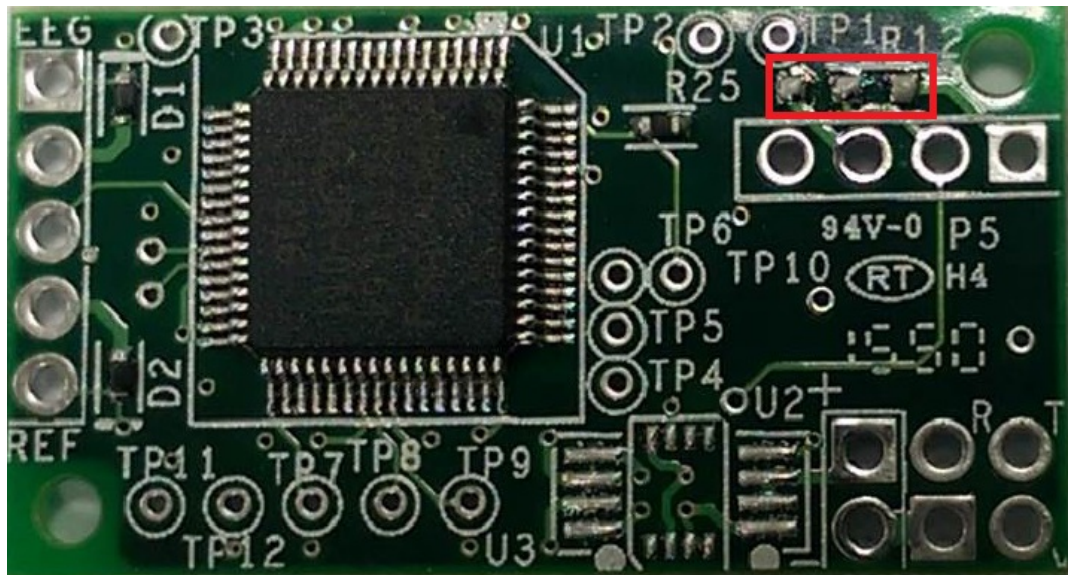

Figure 3.1: Notch Filter Configuration Pads
The Notch Filter (NF) pad configures the notch filter frequency, after the TGAM1 powers up. Those pads are located on the top side of PCB. Figure 3.1 shows the location of those pads.